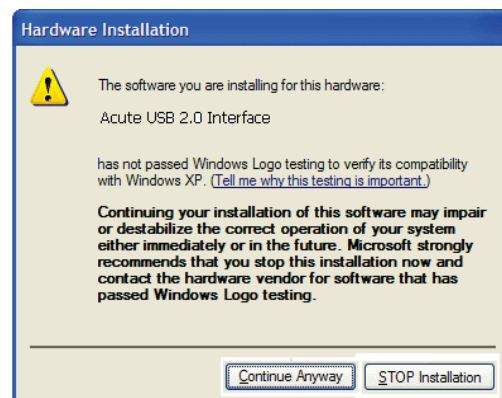

Figure 4
- (4) Click “Continue Anyway” (Figure 4) to continue the installation procedure.